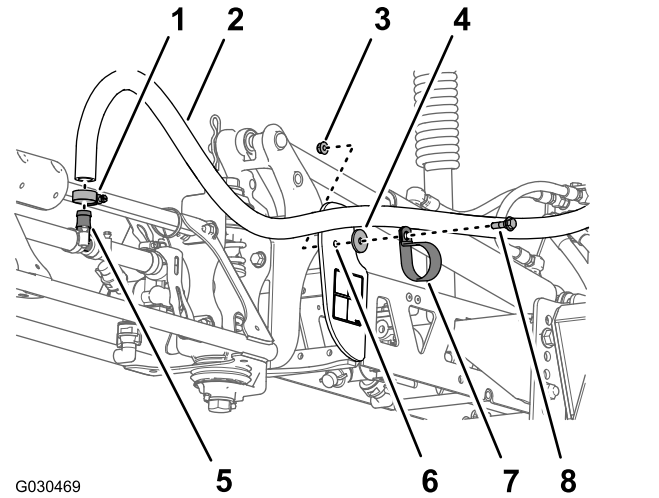

Figure 61
1. At the forward side of the sprayer boom section, remove the R-clamp, shoulder bolt (5/16 inch), washer (5/16 inch), and flange locknut (5/16 inch) that secure the boom hose to the center section frame (Figure 61).
2. Remove the hose clamp and boom hose from the barbed T-fitting (Figure 61).